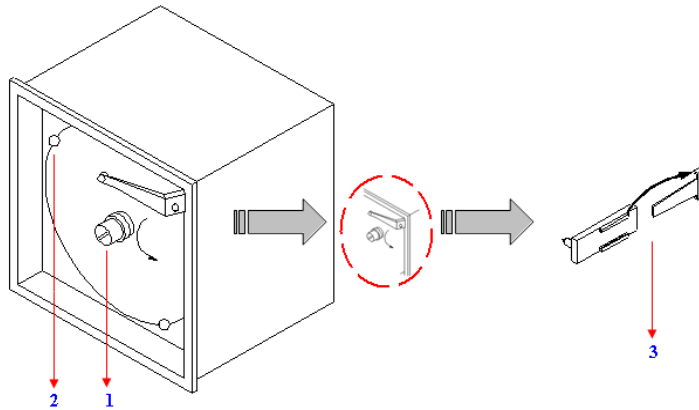

Figure 10
- Open the lid of the circular recorder by using the key. Unscrew the nut in the center (1) by rotating it to counterclockwise as shown in Figure 10.
- Turn the nut in the center (1) to counterclockwise direction.
- Put on one of the circular recorder papers supplied with the device, printed side facing towards out (2).
- Insert the chart recorder pen (3) to the handle carefully and remove the cap on the pen.